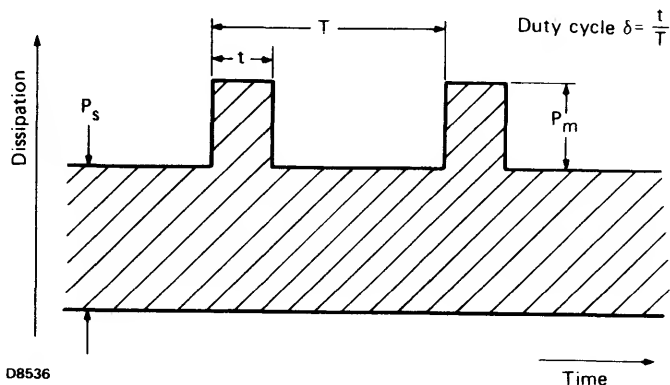

Fig.2
b) Pulse conditions (see Fig.2)